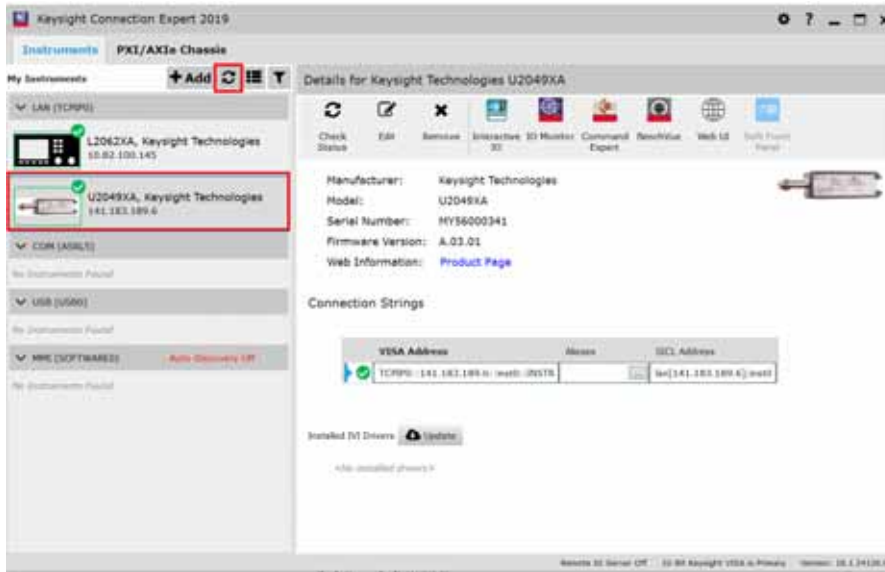

Figure 1-13 Auto-locate a LAN instrument in Keysight Connection Expert via Static IP
- 6 Go to **Start > All Programs > IO Control** () to launch Keysight Connection Expert. Click **Start a Scan for connected instruments** to auto-locate the sensor as shown in **Figure 1-13**.